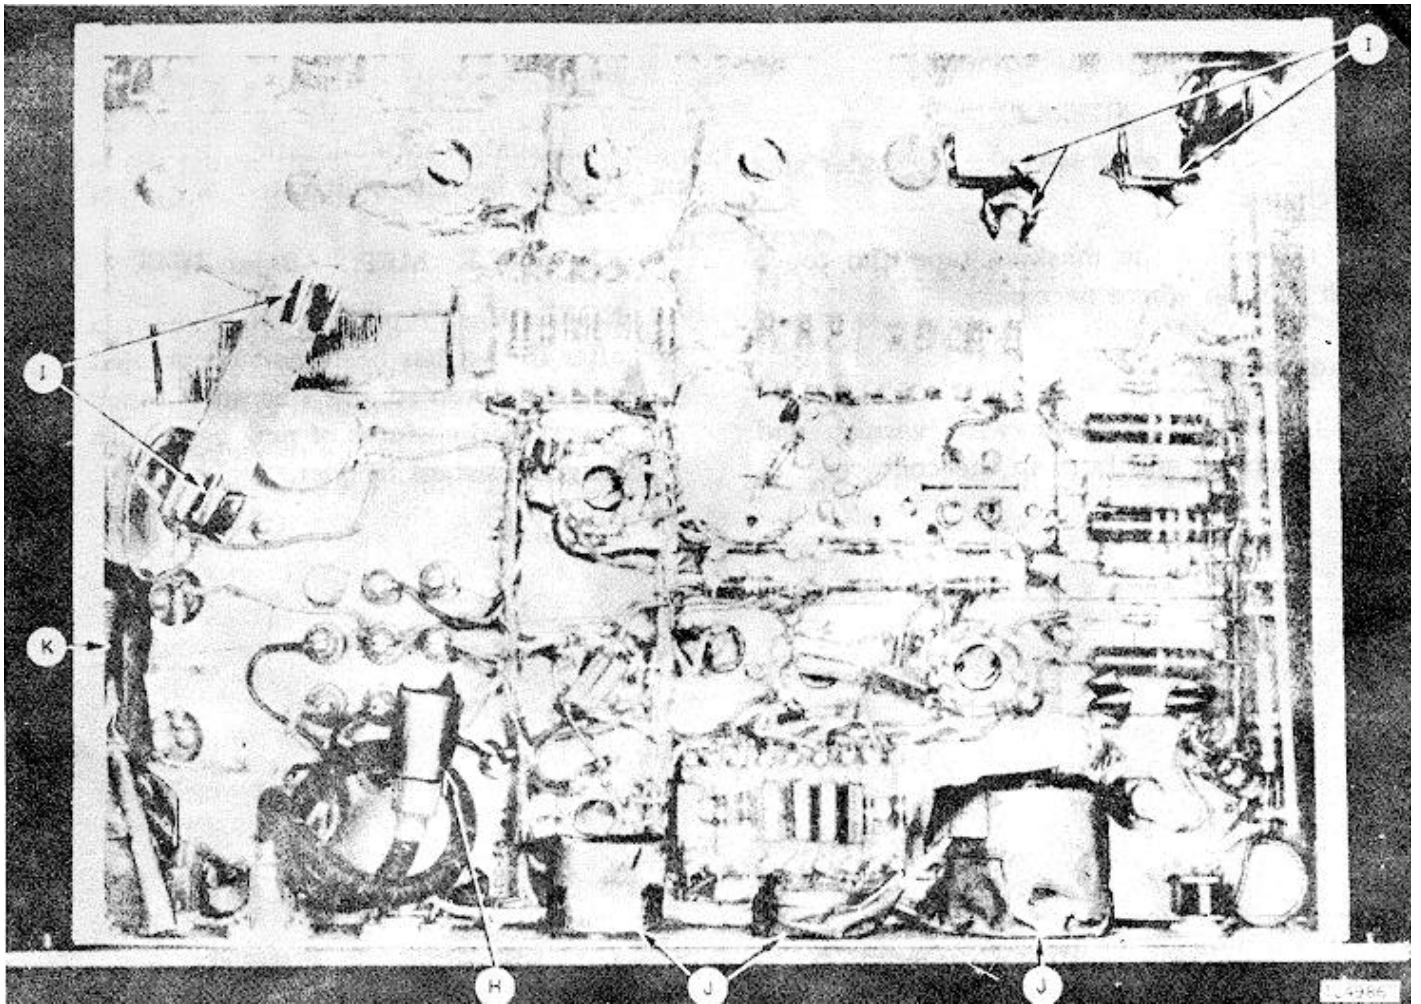

Figure 13. Masking, bottom of chassis
(2) On the under side of the chassis (fig 13) mask the following with masking tape: